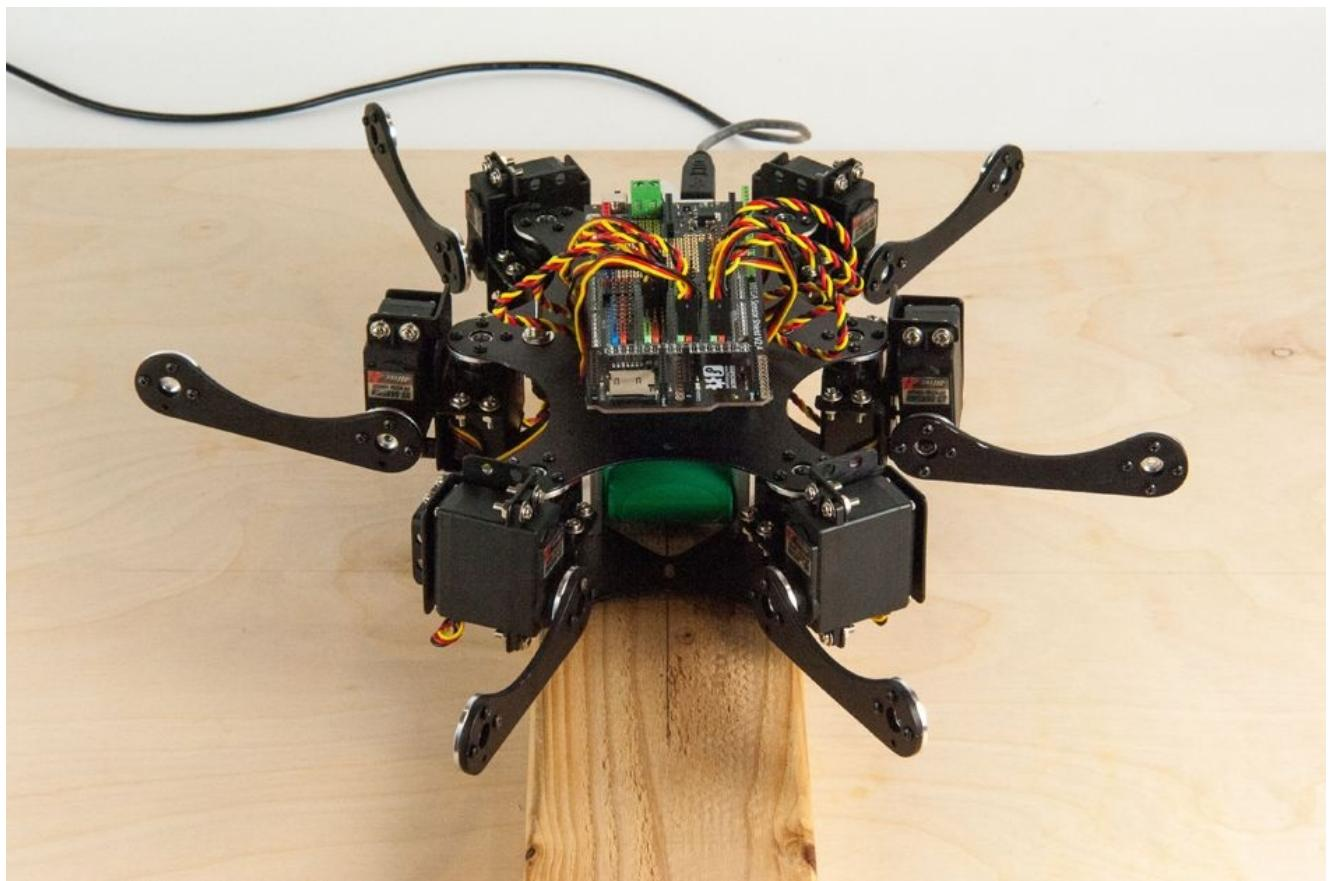

Figure 5-8. All six femurs installed
3. Stop *phoenix.js* with Control-C and disconnect the Arduino from your computer. It is now safe to screw the femur onto the femur servo. Figure 5-8 shows the installed femurs.